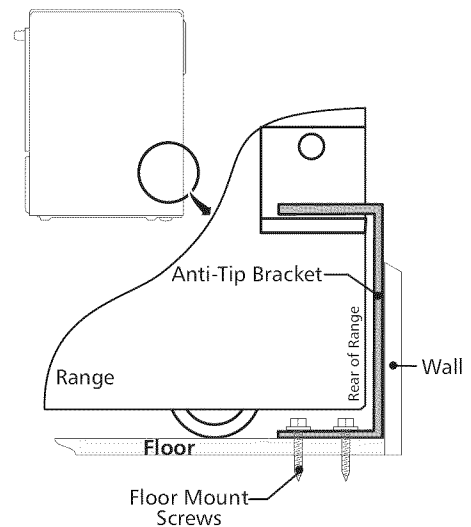

Figure 12
4. Remove template and place bracket on floor. Line up holes in bracket with marks on floor and attach with 4 screws provided. Bracket must be secured to solid floor (Figure 12). If attaching to concrete floor, first drill 3/16" (0,48 cm) dia. pilot holes using a masonry drill bit.
6. Slide range into place making sure the range is trapped by the anti-tip bracket (Figure 12). Lower the range by adjusting the 4 leveling legs until the underside of the cooktop is sitting level on the countertop. Refer to "Leveling the Range" section.